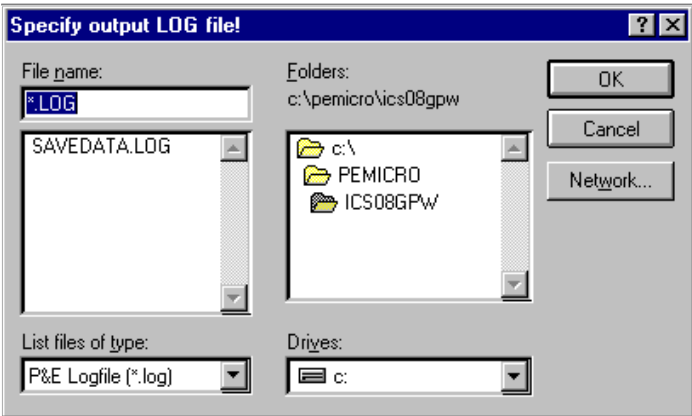

Figure 6-11. Specify Output LOG File! Dialog Window
- The **Specify output LOG file** dialog (**Figure 6-11**) opens.